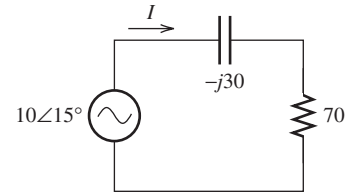

FIGURE P6.62 Circuit for Problem 6.62.
- 6.62** (A)* Find I , and the apparent power consumed by the circuit for Figure P6.62.